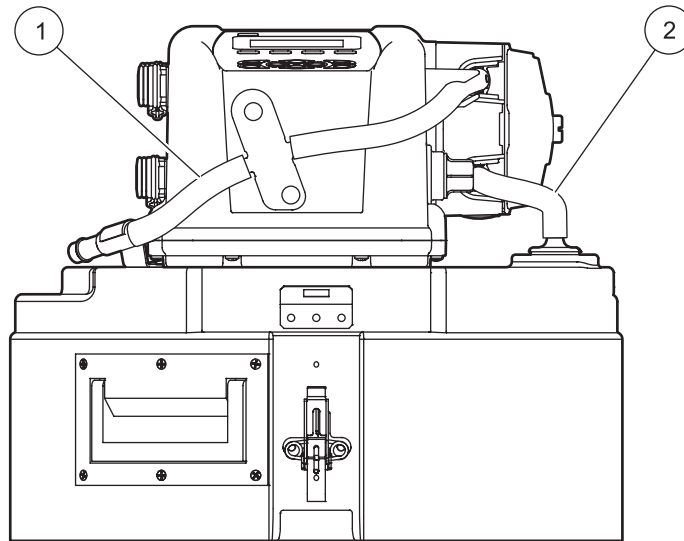

Figure 4 Tubing installation
2. Push one end of the tube on the stainless steel fitting on the sampler housing (Figure 4).
4. Push the tube from the pump on the plastic tube fitting on the sampler housing (Figure 4).